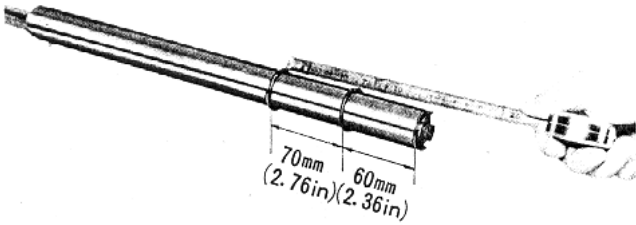

Fig. 13-23 Installing oil stop rings
11. Install the two oil stop rings onto the bottom side of the pressure tube as shown in Fig. 13-23.